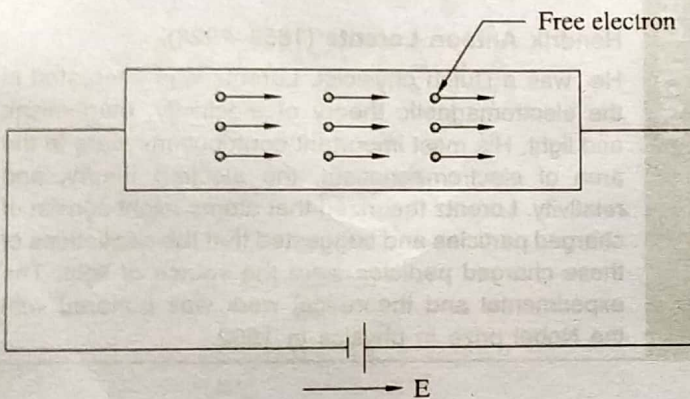

FIG. 1.10 : METAL - CONDUCTION
- Consider a conductor which is subjected to an electric field of strength E as shown in Fig. 1.10.